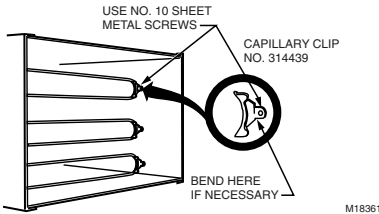

Fig. 8. Alternate mounting using capillary clip no. 314439.
- Drill holes for no. 10 sheet metal screws as shown in Fig. 8.